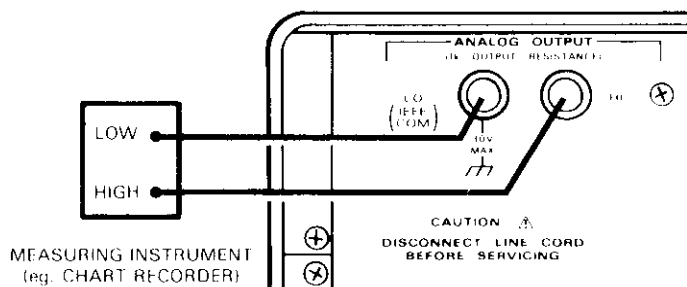

Figure 2-8. Analog Output Connections
1. Connect the measuring device to the two analog output terminals on the rear panel as shown in Figure 2-8.